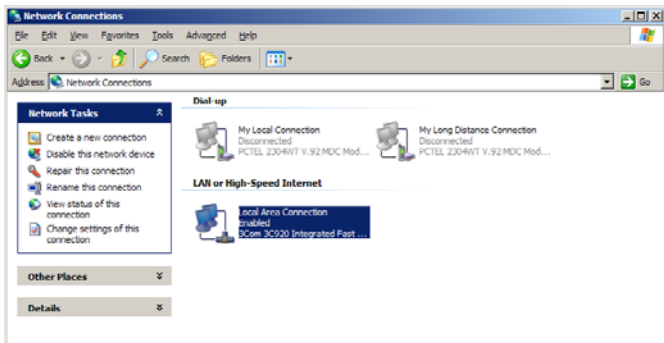

Figure 7-3 LAN or High-speed Internet Connection
3. Highlight the “LAN or High-speed Internet Connection” icon. Select the “Change settings of this connection” option, or right-click and select “Properties.” Refer to Figure 7-3.